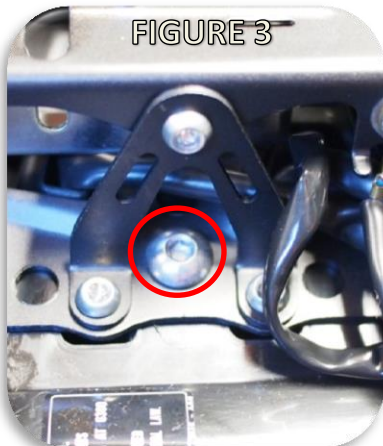
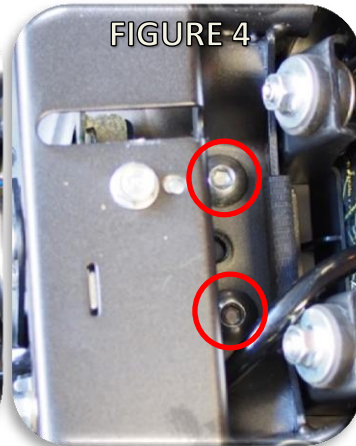

FIGURE 3
FIGURE 4
4. Remove the factory rear fender assembly from the motorcycle (3X 5mm allen head bolts, FIGURE 3 and FIGURE 4). One of these bolts will be reused so set aside. The single forward bolt should be accessible with a standard L-key allen wrench without removing the triangular brace around it. Gently guide the three wiring looms out of two holes in the undertail tray, noting that blue connector needs to be guided under the subframe cross bar and out the hole on the right (brake) side of the undertail.